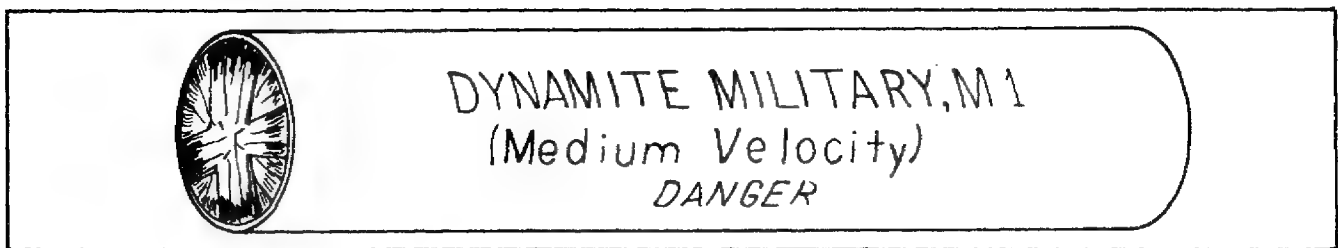

Figure 89. Dynamite, Military, M1.
**Dynamite, Military, M1.** Dynamite is used in the military for construction, quarrying, and ditching. Military dynamite differs from commercial dynamite in that it contains RDX and binder instead of nitroglycerine. RDX and binder filler is much safer to store, handle, and use. The military dynamite M1 stick (Figure 89) is approximately 8 inches long and 1 1/4 inches in diameter. Each stick contains approximately 1/2 pound of explosive and is packaged in paraffin-coated paper that is tan with black markings.